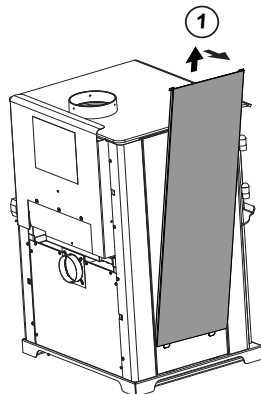

Figure 25.4
1. Remove solid panel from side by lifting up and pulling away from appliance (use a flat tool to pry from bottom if needed) (**Figure 25.4**).
4. Reattach tile frame (**Figure 25.4**).